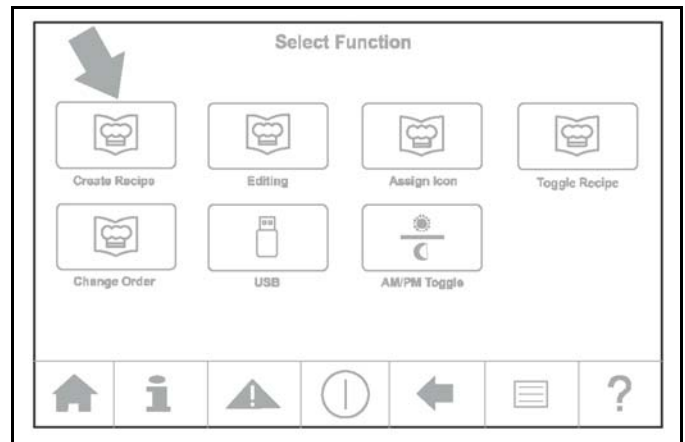

Figure-75
13. Select the Create Recipe key to create a new recipe. See Figure-75.